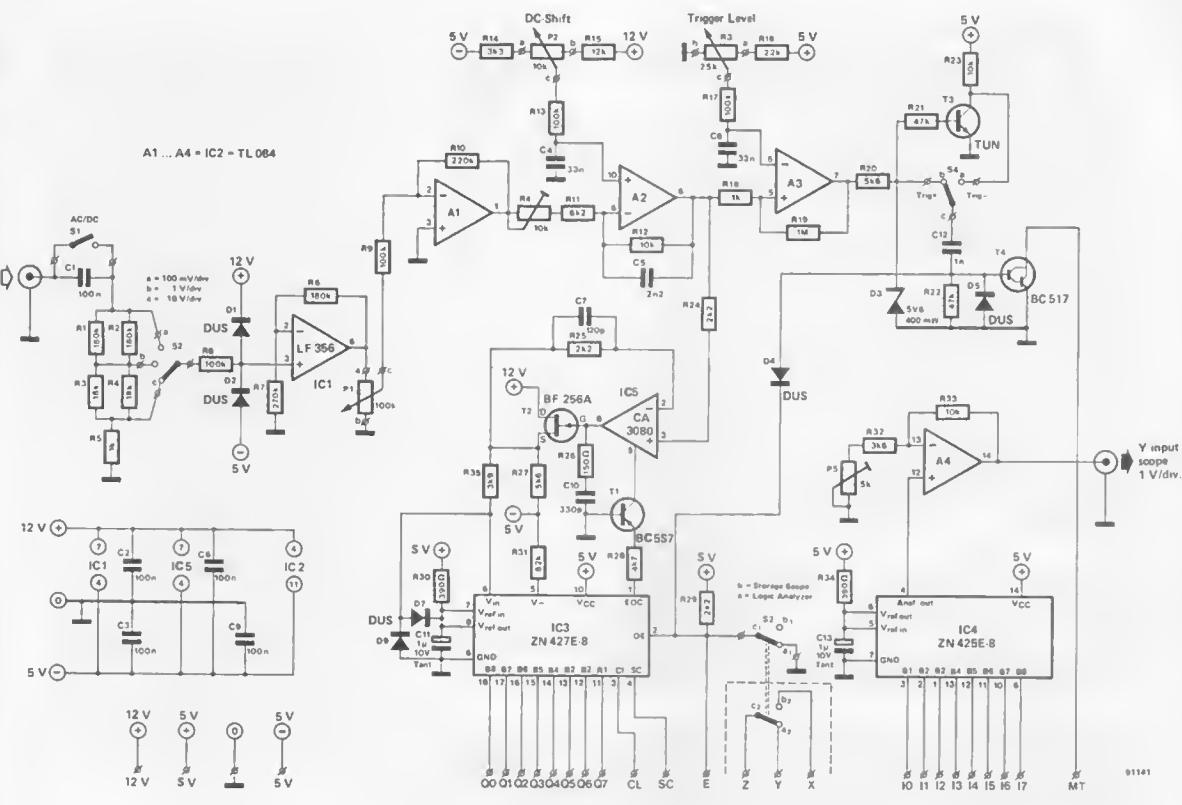

Figure 1. The circuit diagram which, in combination with the logic analyser, converts an ordinary oscilloscope into a storage scope.
If you have read the previous articles on the logic analyser, you will have been confronted with enough block diagrams to last you a life time, or at least plenty for this particular application! Without further ado therefore, let us see how the storage scope works by examining the circuit diagram shown in figure 1.
First let us examine the input circuitry shown at the top left-hand corner of figure 1. The analogue input signal enters the circuit at the AC/DC switch S1. While this switch is open any DC in the input signal will be blocked by capacitor C1.
The next opamp, A2, adds the DC voltage present at the wiper of potentiometer P2 (DC shift) to the output signal of A1. This enables the operator to ensure that the input voltage to the A/D converter is positive, as it should be at all times. When the wiper of P2 is in the centre position, about +0,5 V will be added to the signal via the non-inverting input of A2. At the heart of figure 1 is a sample-and-hold circuit which is constructed around an operational transconductance amplifier (OTA) together with transistor T2. In actual fact, the output of the OTA constitutes a voltage controlled current source. The output current depends on both the differential voltage at the input (between pins 2 and 3 of IC5) and on the control current flowing into pin 5 of IC5 (transistor T1 is a PNP device). According to the polarity of the output current, capacitor C10 is either charged or discharged in proportion to the size of the output current independently of any resistance. The presence of the high impedance FET buffer T2 guarantees this. The output of T2 is fed back to the non-inverting input of IC5 (pin 2), so that the voltage at the source of T2 will follow the output voltage of A2 for as long as T1 conducts.
positive (S4 in position b) or negative (S4 in position a) trigger pulse (MT). So far so good. The input signal has now been stored in memory, that is, it is held in RAM. Therefore, it has to be read from RAM before it can be displayed on the oscilloscope screen. If an A/D conversion is necessary for a signal to be stored in RAM, it follows that the reverse (D/A) is required for the signal to be read from RAM. For this reason the D/A converter IC4 (IC3's opposite number) is included in figure 1. The amplitude of the analogue output signal at pin 4 of IC4 is determined by the logic levels of all eight data inputs (pins 10...17). Opamp A4 further amplifies the resultant analogue output signal by a factor determined by the setting of potentiometer P5. The output of A4 then becomes the input signal of a conventional oscilloscope, which, together with the circuit just described, adds up to a first class storage scope.
Figure 1 shows what the storage scope looks like on paper; the practical version can be seen in figure 2. The storage scope module can be joined to the main board of the logic analyser with the aid of a pair of 31-way connectors, or, alternatively, by using 27 individual wire links. The storage scope module is